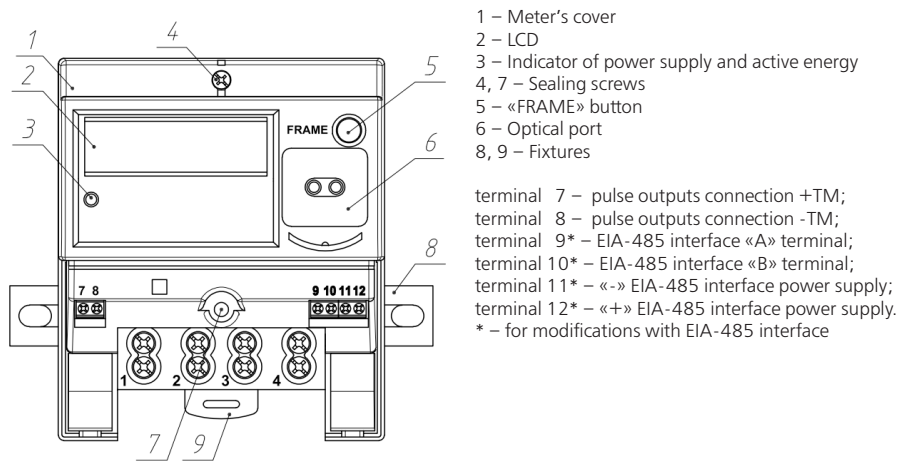

Figure 2.2 – External view and terminals numbering of CE102 R5.1
2.5.3 Terminals for meter connection to the network, interface lines, pulse outputs are closed by the plastic cover. Meter external view, image of the terminal plate and numbering of terminal is shown in the Figure 2.2.